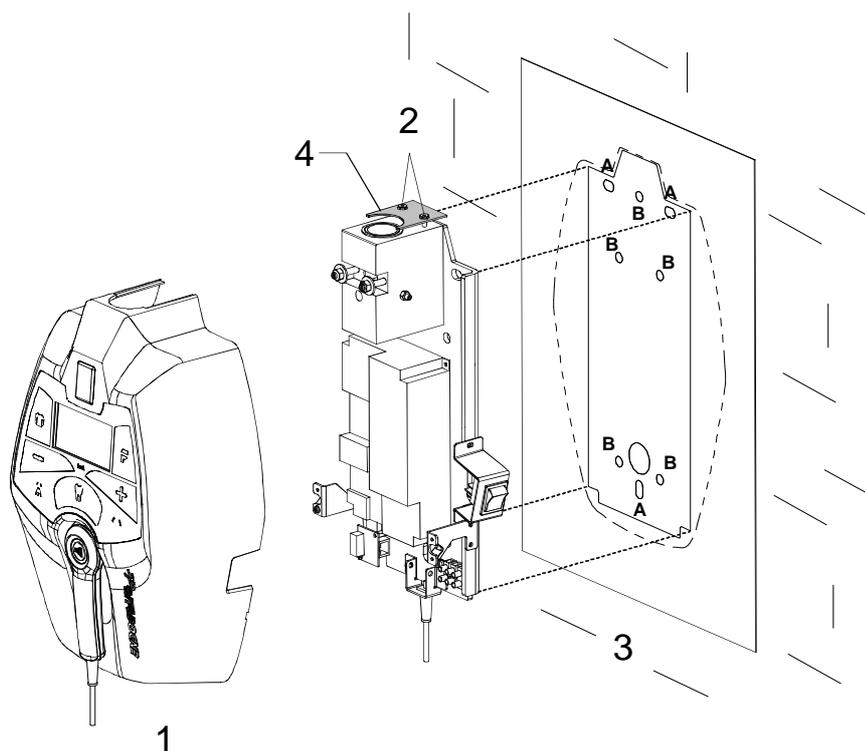

Figure 6-1
1. To be sure that the equipment is in the correct position we recommend you put the provided template code 39599100 (**3** - Figure 6-1) in the requested position, in this way identifying the requested wall-mounting position. Considering the overall dimensions of the equipment, put the top part of the template at 1450 mm from the floor.
3. Remove the plastic timer cover (**1** - Figure 6-1) loosening the two sealing screws (**2** - Figure 6-1) placed on the top part.
Do not remove completely the screws and the relevant plate (4 - Figure 6-1); with the extention arm in place, will not be possible to reassemble the plate.